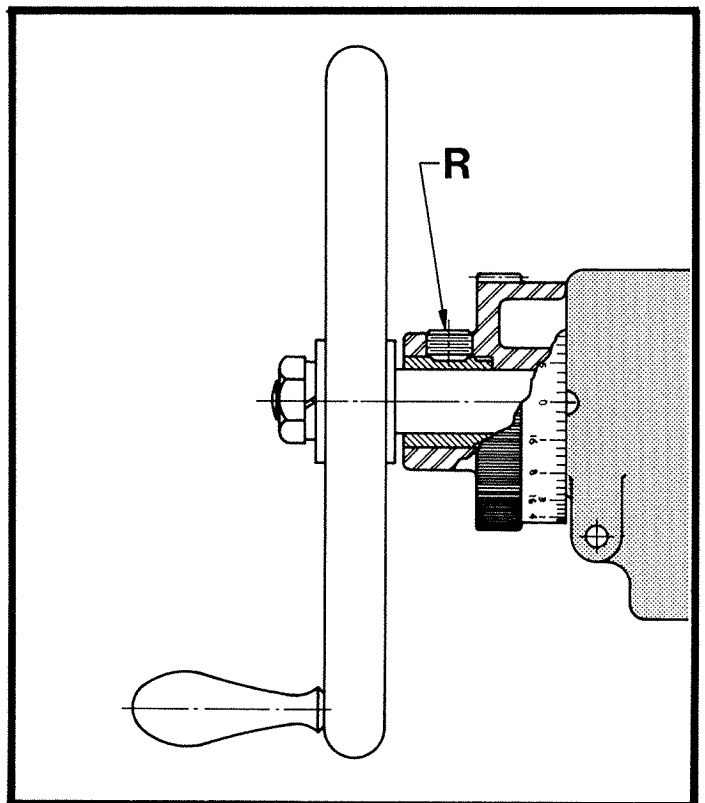

FIGURE 87
5. Refer to Figures 87, 88 or 89 for location of set screw "R" for adjustment.